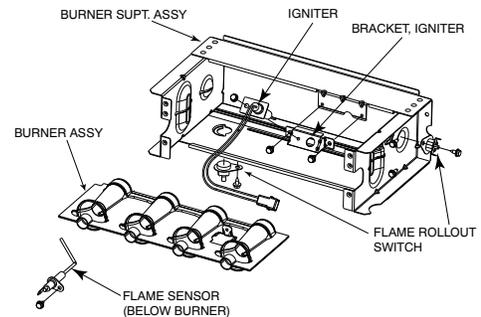
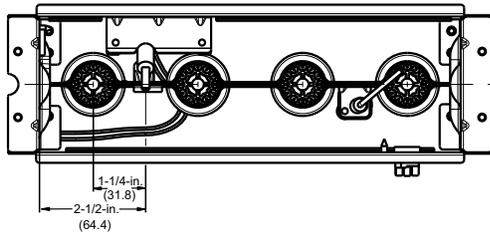
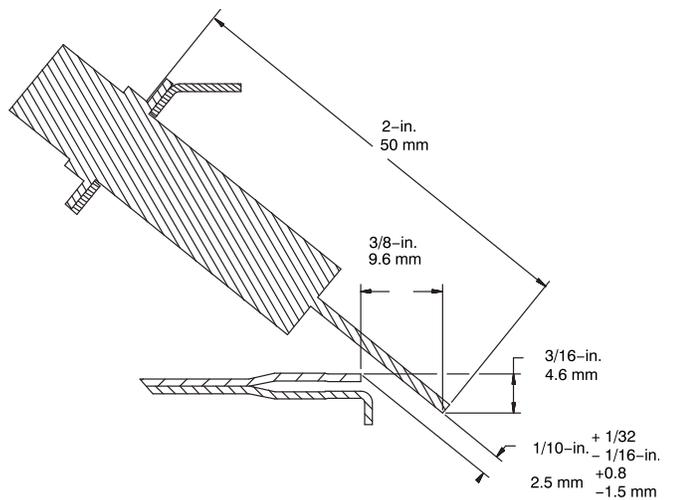

Fig. 68 – Burner Assembly
Fig. 69 – Igniter Position - Top View
Fig. 70 – Igniter Position - Side View
Refer to Fig. 68.
8. Check the igniter alignment. See Fig. 69, Fig. 70 and Fig. 68.
The igniter does **NOT** require annual inspection. Check igniter resistance before removal. Refer to Fig. 69, Fig. 70 and Fig. 68.
- a. Using a 1/4-in. driver, remove the two screws securing the igniter mounting bracket to the burner assembly. See Fig. 68.
7. To replace igniter and bracket assembly, reverse items 6a through 6d.
8. Reconnect igniter harness to the igniter, dressing the igniter wires to ensure there is no tension on the igniter itself. See Fig. 68.